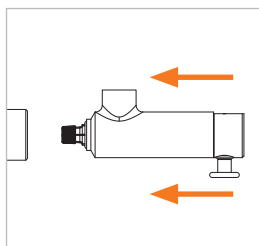

Figure 9
- ▶ With the valve button (Pos. 4) pressed, insert the connector straight into the test piece until the front seal (Pos. 7) touches the test piece (*Figure 9*). Doing so will prevent any damage to the front seal caused by any sharp edges on the test piece and ensure a correct connection.